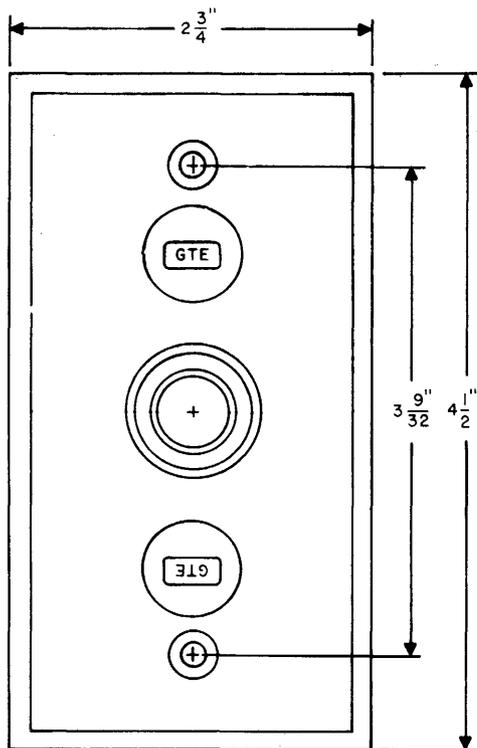
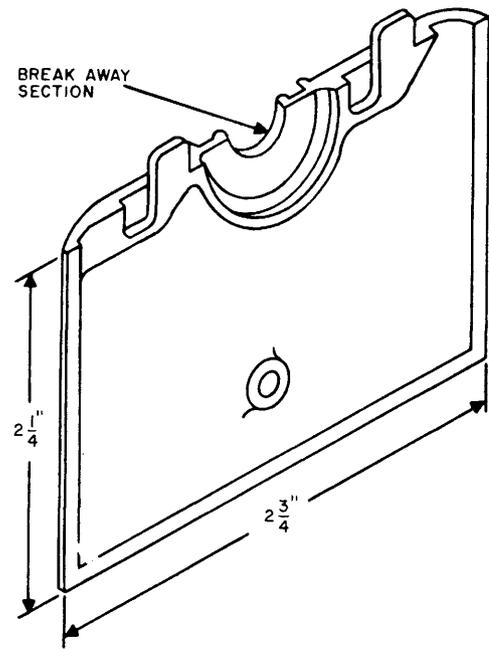

Figure 21. Split Outlet Plate.
Figure 22. Mating Plate.
4.10 The EMCO Facilities Engineering split outlet plate (Figure 21) consists of two high impact polystyrene identical mating plates (Figure 22), which when joined form a cover for a standard rectangular electrical conduit box. The cover comes with a 1/2-inch hole in the center for the line cord to pass through. A break-away section permits the hole to be enlarged to 13/16-inch diameter to accommodate 25- to 100-pair cables.
7.19 The split outlet plate (Figure 21) consists of two identical mating plates (Figure 22), which are fitted together to make the cover. The plate fits a standard electrical conduit box. The standard hole will accommodate line cords of up to 16 conductors (Type 187 telephone set). The break-away section may be removed to accommodate the